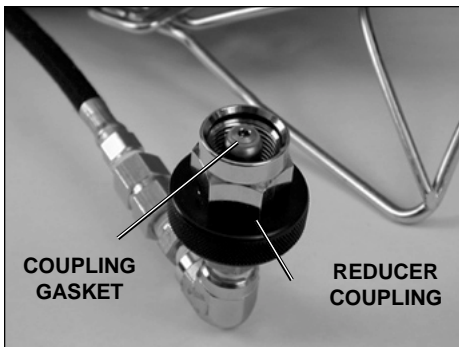

FIGURE 7
2. Check to ensure the coupling gasket is not damaged. See FIGURE 7.